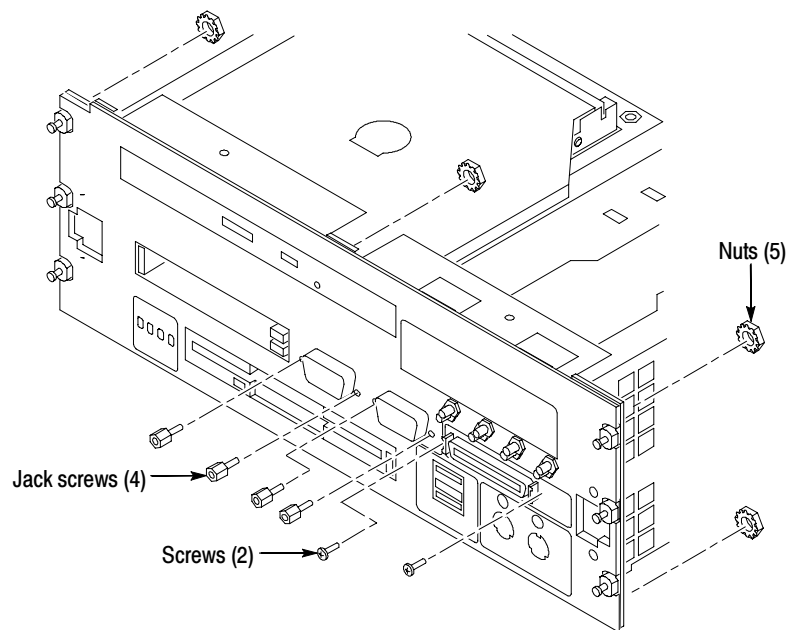

Figure 6: Removing the front panel hardware
3. Using a small, flat-blade screw driver, remove the two screws from the printer port connector on the front panel (see Figure 6).